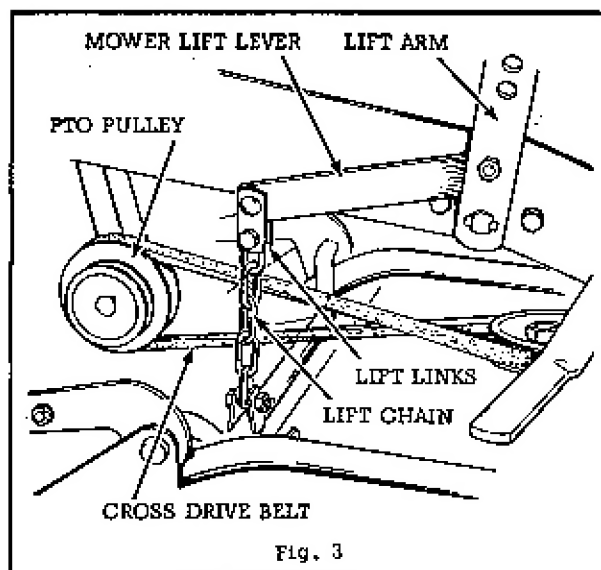

Fig. 3
3. Place the tractor lift lever in its rear position and attach the mower lift lever to the tractor lift arm on right hand side of tractor as shown in figure 3. Use hex capscrow, flatwashers, and hex nut furnished for this purpose.
4. Connect the mower lift chain to the lift lever by fastening the lift links in place with a pin and hair pin cotter as shown in figure 3.
5. Place the cross drive belt in position on the mower drive pulley. Give the belt a 90° twist towards the left hand side of the tractor and mount belt to larger pulley of power take-off as shown in figure 3. When installed in proper manner, the belt should run from the left side of mower pulley to bottom side of power take-off pulley.